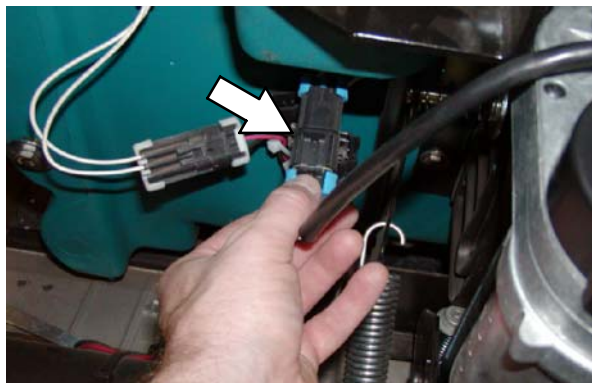

FIG. 1
1. Unplug the actuator from the main wire harness (Fig. 1).